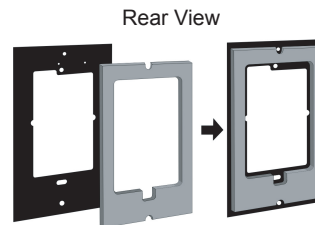

Figure 8
3. Attach the gasket to the rear of the interface bracket, as shown in ☐ Figure 8. (The gasket side faces the wall.)